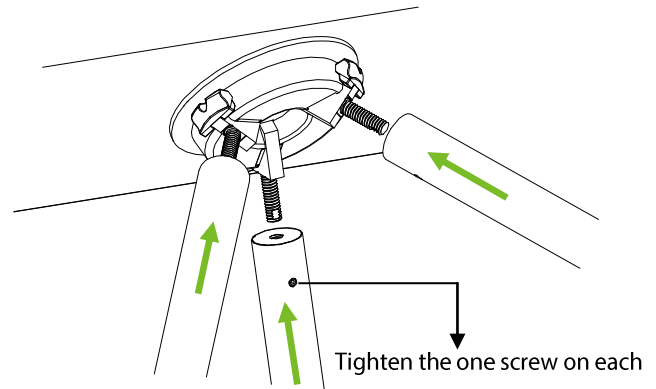

Figure 2-3
2. Insert the arms to the connection points, and use the Hex key to fasten the one screw on each arm, as shown in figure 2-3.